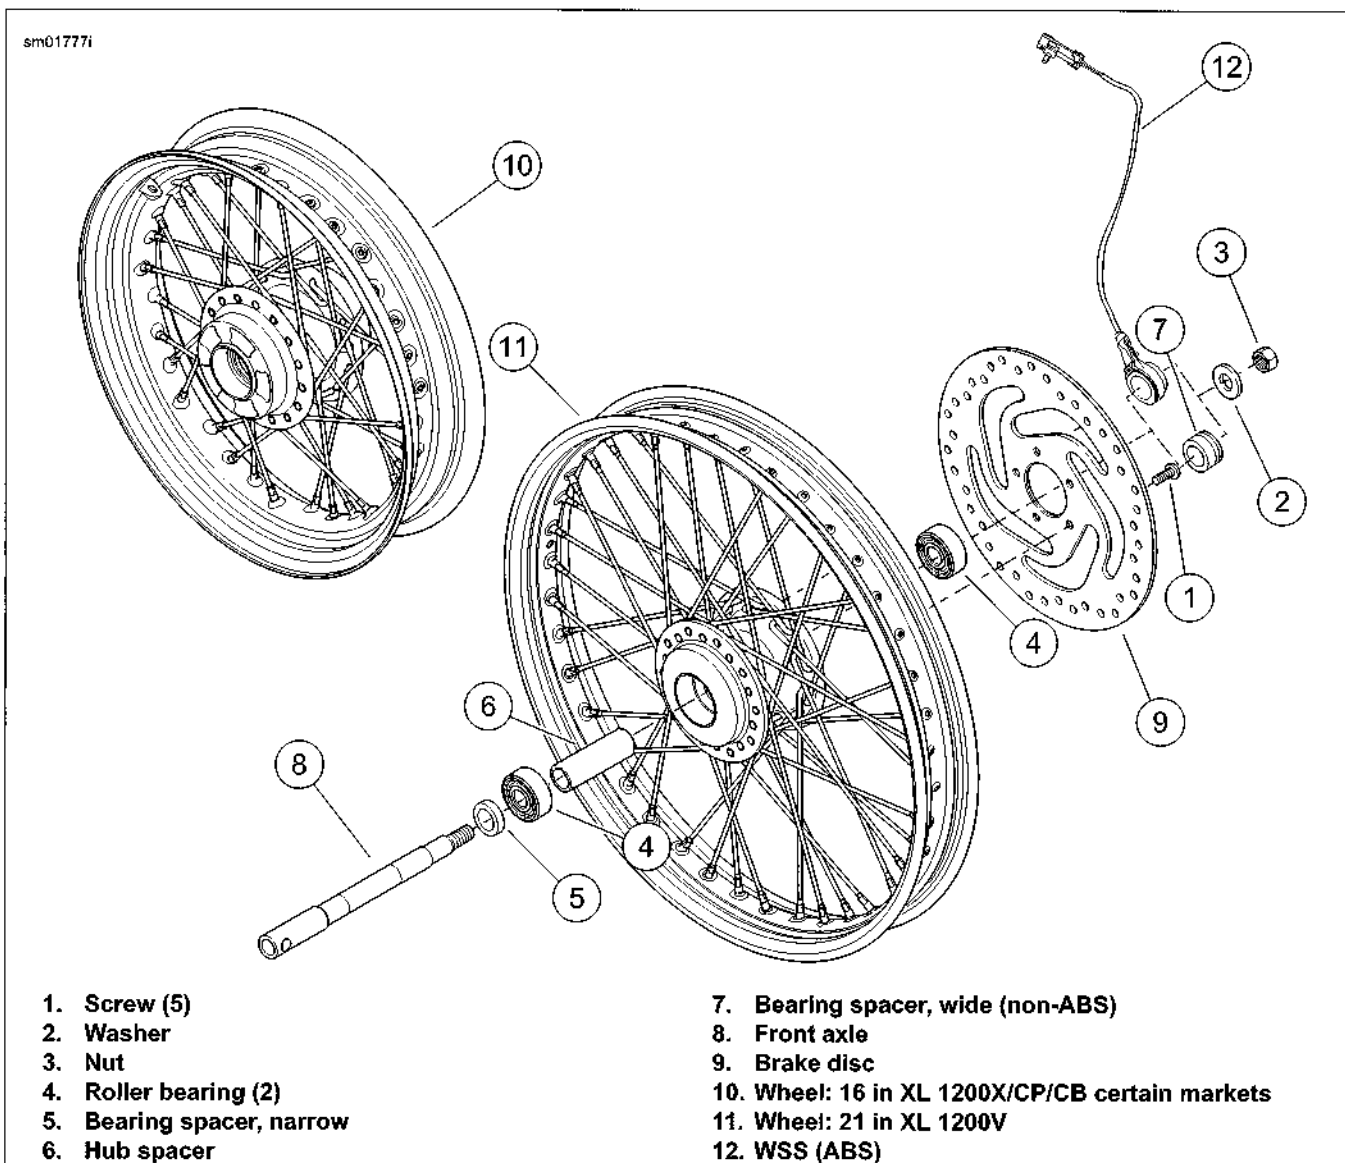

Figure 2-16. Laced Front Wheel
1. See Figure 2-16. If necessary, remove five screws (1) and brake disc (9). Discard screws.
2. If necessary, remove wheel bearings (4) and hub spacer (6). See 2.5 WHEELS, Sealed Wheel Bearings.
1. See Figure 2-16. Install hub spacer (6) and **new** wheel bearings (4) if removed. See 2.5 WHEELS, Sealed Wheel Bearings.